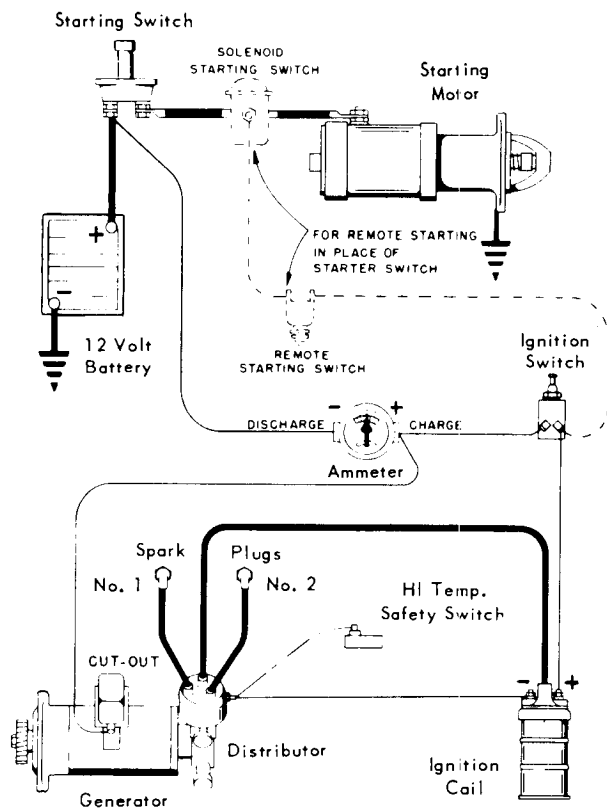

Fig. 18, WIRING DIAGRAM Battery Ignition with Generator
The breaker point gap of .020 of an inch should be checked and adjusted per paragraph (3), before distributor body is set and locked in place, as per paragraphs (4) and (5), because any change in gap opening will affect the ignition advance. Mount distributor cap and connect ignition cables per *Wiring Diagram*, Fig. 18 or 20.
The wiring diagram, Fig. 18, illustrates a **negative ground** circuit. If polarity of generator is for a positive ground circuit, terminal connections at ammeter, ignition coil, and battery are reversed from those shown. **Do not** use positive ground generator and regulator in a negative ground circuit, or vice versa. Polarity does not affect starting motor, coil and distributor.